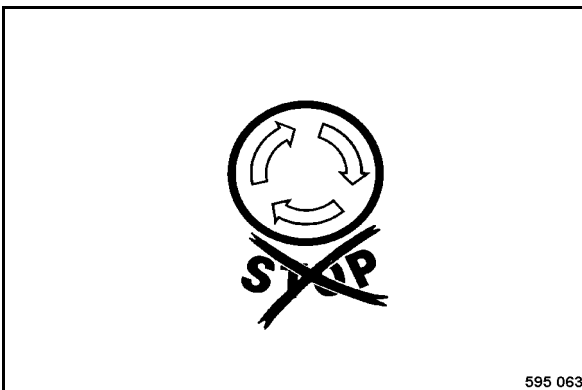

Fig. 48
- Check, whether the emergency stop switch (Fig. 48) is unlocked.